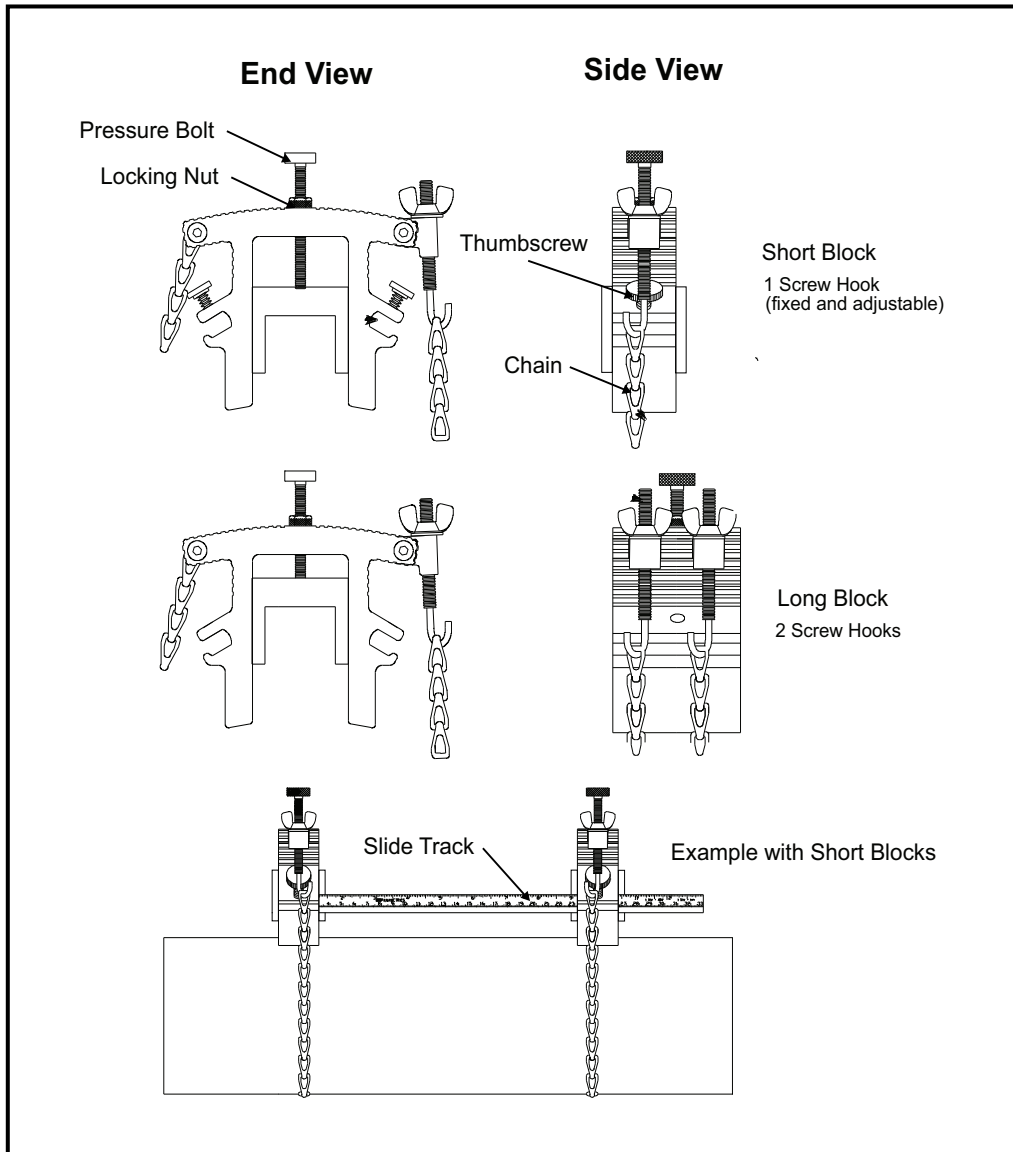

Figure 4: Components of the UCF
The UCF includes the following components (see *Figure 4* on page 7):
6. Tighten the locking nut on the pressure bolt (see *Figure 4 on page 7*).